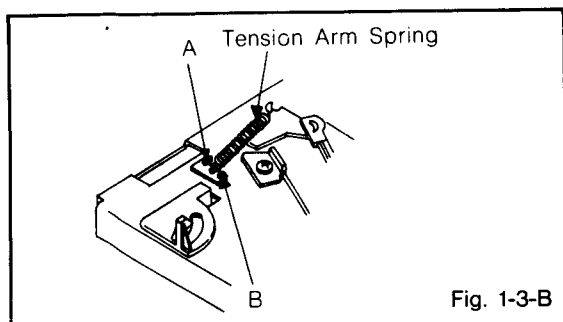

Fig. 1-3-B
2. Install the tentelometer as shown in Fig. 1-3-A. Confirm the value is within 22~30gr/cm at this time.
3. Adjust when it does not satisfy the above items. Set the tension arm spring to "A" direction when the torque meter indicates more than 30gr/cm. (Refer to Fig. 1-3-B) Set the tension arm spring to "B" direction when the torque meter indicates less than 22gr/cm. (Refer to Fig. 1-3-B)